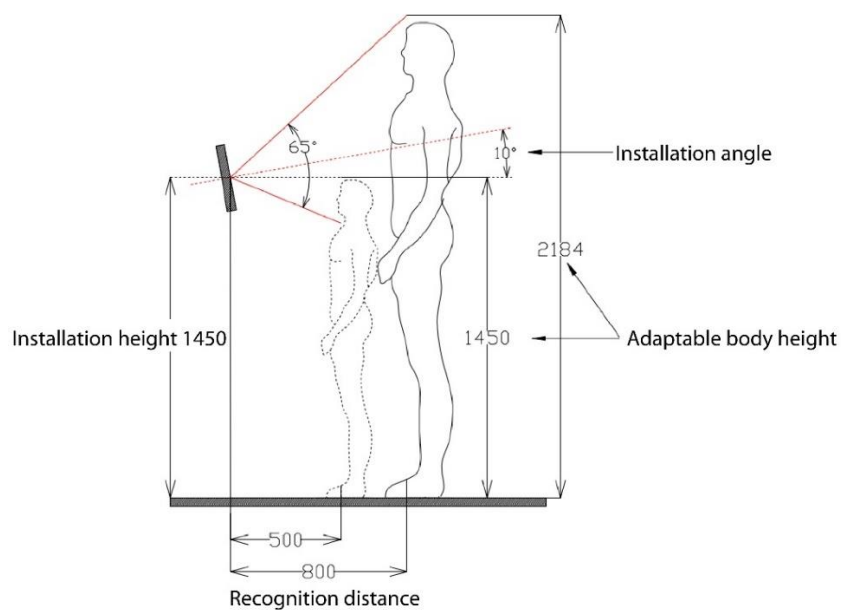

Figure 8.6 Slant installation
In the slant installation mode, the installation angle (b) is set to 10° , and the installation height (H) is set to 1.45 m. If a person can be recognized at a distance of 0.5 m to 0.8 m, the reader can adapt to individuals with height is between 1.45 m and 2.18 m, as shown in Figure 8.6.